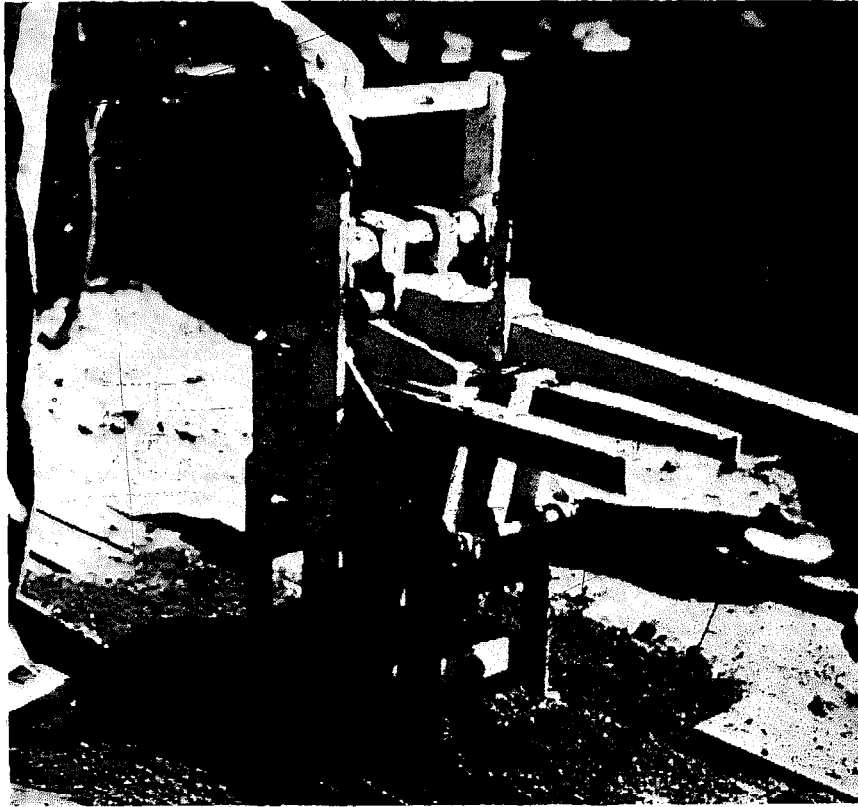

Figure 52.
**CINVA-RAM**—The CINVA-Ram (Figure 52) was developed by the Inter-American Housing and Planning Center (CINVA) at Bogota, Colombia, in 1952. It is operated by manually applying pressure on a long lever arm. It produces blocks which are 11½x5½x3½ inches (either hollow or solid) and will also produce 11½x5½x1½ inch tiles for roofs or floors. The long lever arm arrangement produces dense, high-quality blocks. The CINVA-Ram is presently distributed by Metalibec Ltda, Apartado Aero 233-NAL 157, Bucaramanga, Columbia, South America,